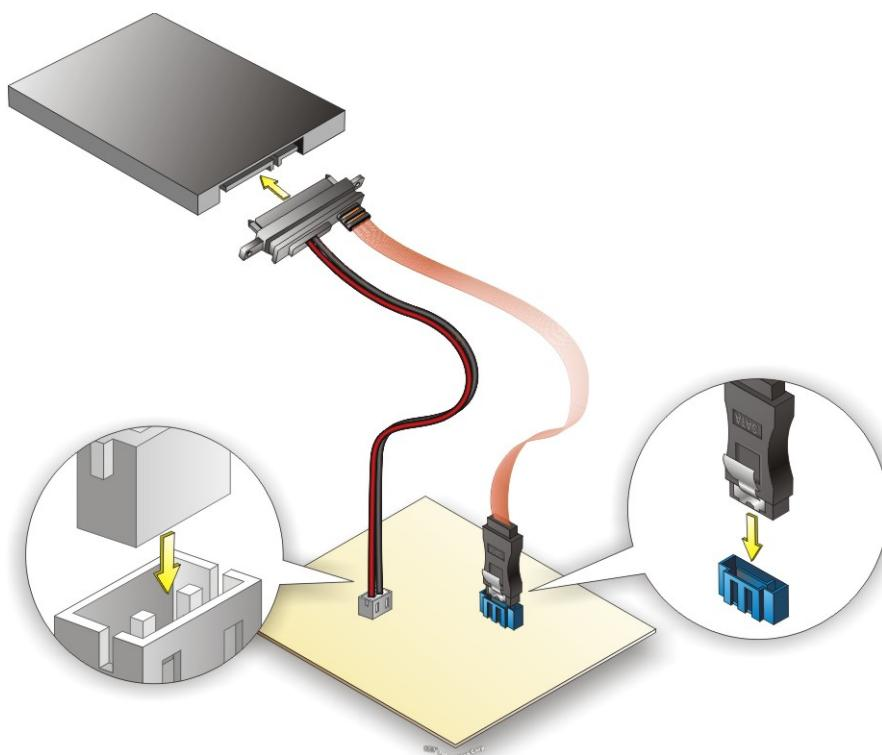

Figure 4-21: SATA Drive Cable Connection
Step 2: **Insert the cable connector.** Insert the cable connector into the on-board SATA drive connector and the SATA power connector. See **Figure 4-21**.
Step 3: Connect the cable to the SATA disk. Connect the connector on the other end of the cable to the connector at the back of the SATA drive. See **Figure 4-21**.